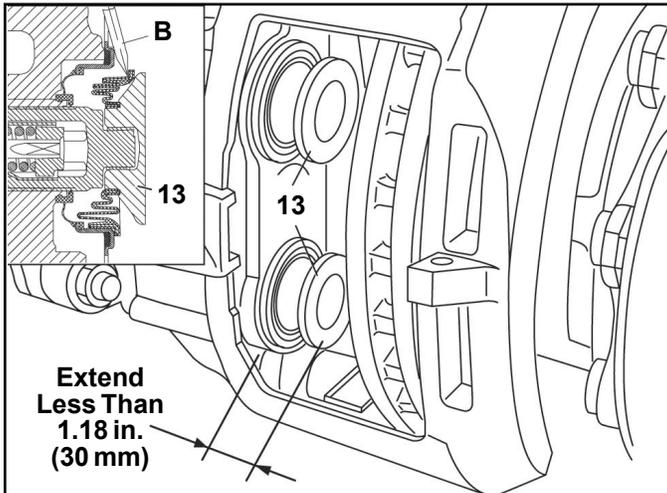

FIGURE 4 - TAPPET EXTENSION
Removal of the tappet and boot assembly (13) requires the use of the wedge fork (A). See Figure 4. Extend the tappets